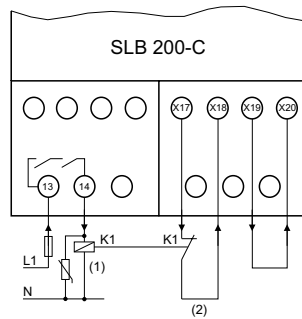

Fig. 4
**Leyenda (fig. 4)**
- (1) Contactor
- (2) Control de contactores (EDM)